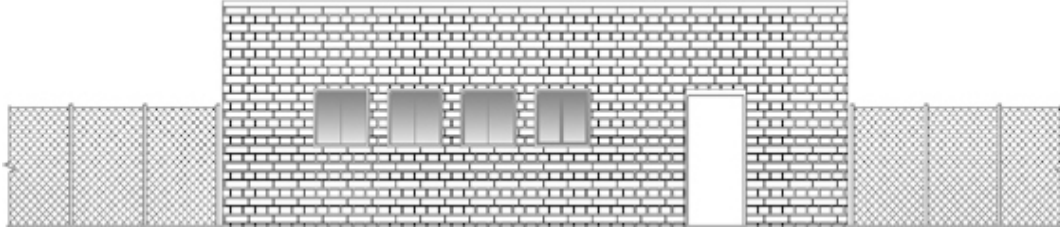

Figure 10-28
- 7 Save your drawing. Your drawing should resemble Figure 10-28.